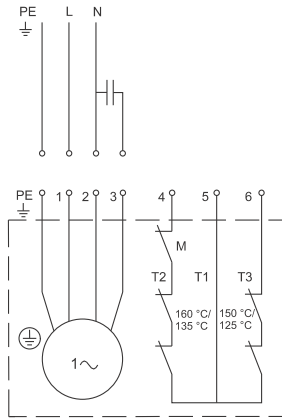

Fig. 2 Wiring diagram for single-phase pumps
See fig. 2 in Appendix.
See fig. 2 or 3 and the installation and operating instructions for the selected control unit or pump controller.
If the direction of rotation is wrong, interchange two phases in the power cable. See fig. 2 or 3.
4. If the direction of rotation is wrong, interchange two phases in the power cable. See fig. 2 or 3.